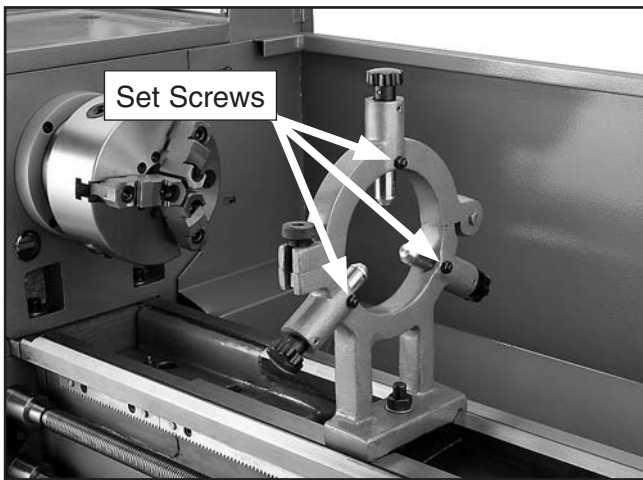

Figure 45. Steady rest adjustments.
2. Loosen the three set screws so the finger position can be adjusted (see **Figure 45**).